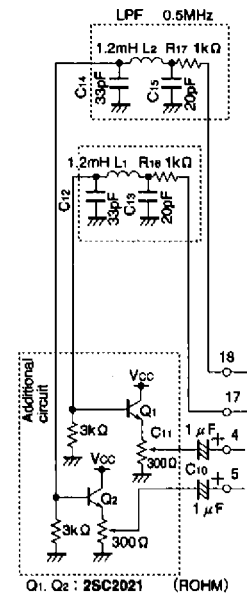

Fig. 11
- 4) Pin 4 (B-Y_{IN}) and pin 5 (R-Y_{IN}) have high impedance and are susceptible to the effects of noise and other external factors during pattern generation. For this reason, we recommend adding the circuit in Fig. 11 to lower the input impedance. Adding this circuit can also reduce carrier leakage.